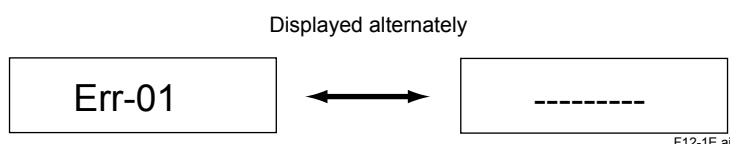

Figure 12.1
- (1) Stops the supply of power to the heater in the detector to insure system safety.
- (2) Causes an error indication in the display to start blinking to notify of an error generation (Figure 12.1).
- (3) Sends a contact output if the error (Parameter code E20) is set up for "Contact output setting" for that contact (refer to Section 8.5, "Contact Output Setting").
- (4) Changes the analog output status to the one set in "Output hold setting" (refer to Section 8.3, "Output Hold Setting").